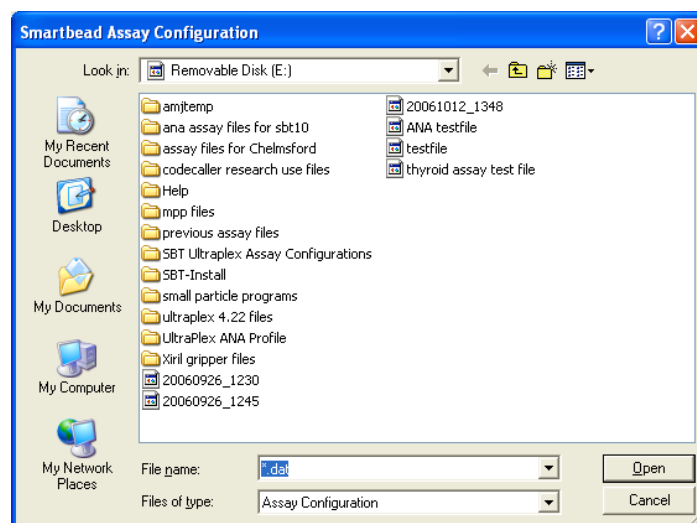

Figure 5. Removable media device directory window
1. A directory of files will appear (Figure 5). The location shown will be that which was last accessed, so typically you will be presented with a list of .dat files in the appropriate folder, whether they be on the E: drive (USB flash drive or other removable media device) or on the SmartStation PC (when SmartStation and SmartReader are directly connected).